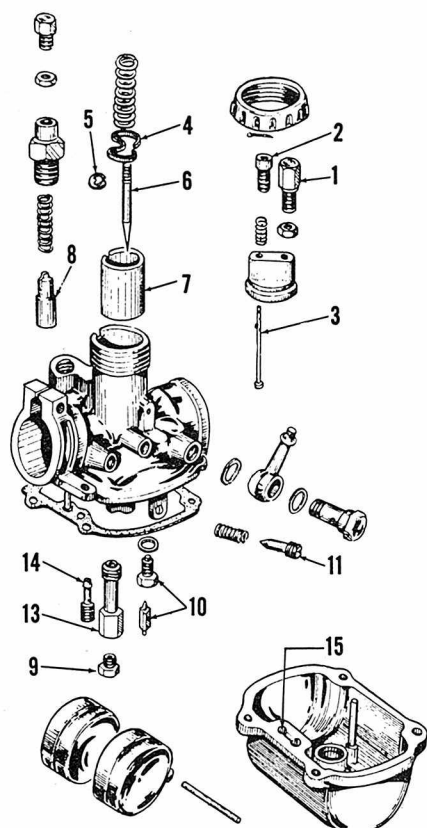

Fig. BS2-1—Exploded view of Mikuni VM type carburetor.
**CARBURETOR.** Refer to Fig. BS2-1 for exploded view of Mikuni carburetor typical of type used on all models. Idle speed is adjusted at (2) after re-